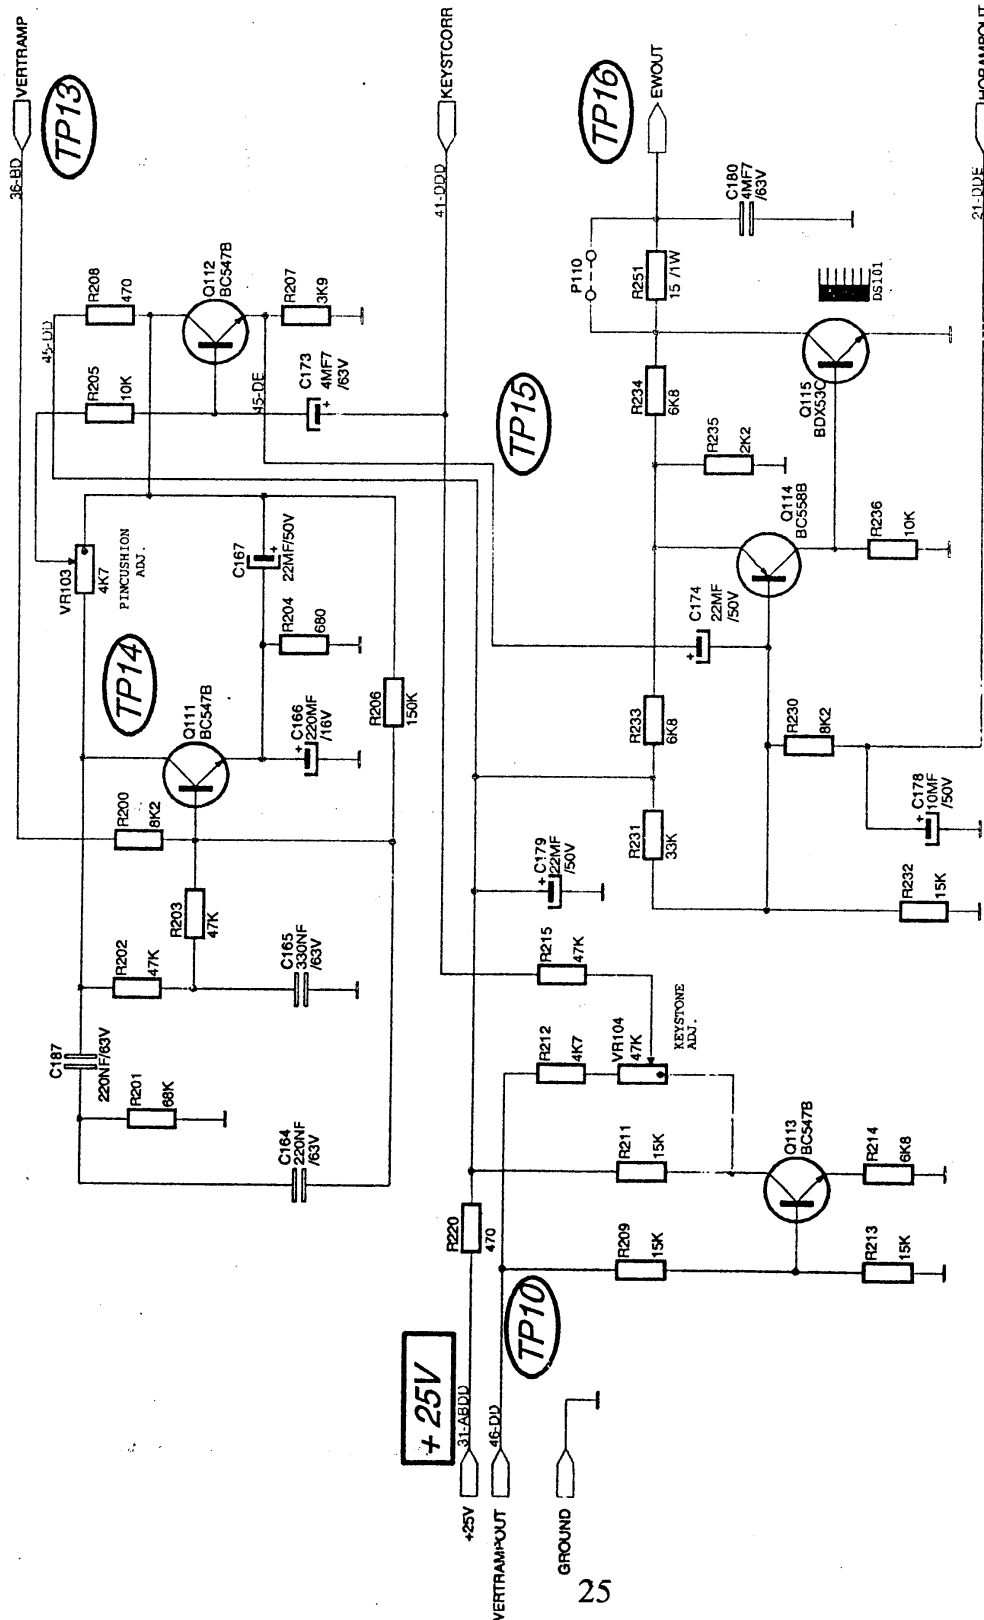

Fig. 14 - Monitor Doppia Frequenza (15- 25 kHz)
3. Adjustments Board K105, see fig.14.
2. Transistors Q111 – Q112 – Q113 = BC547B; Q114 = BC558B; Q115 = BDX53C (Fig.14).
3. Resistor R251 = 15 Ω 1 W (Fig.14).